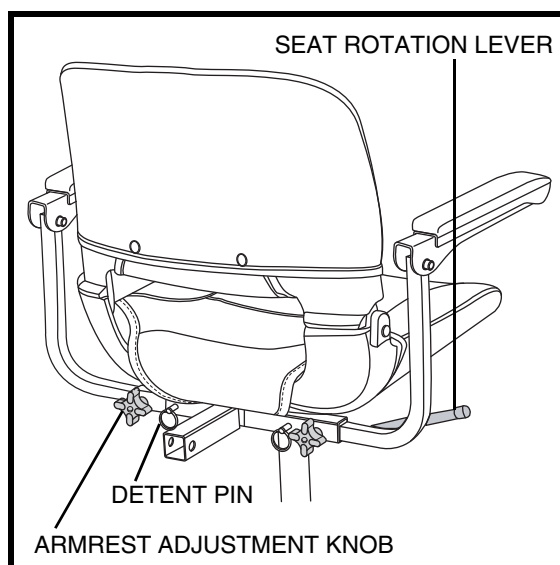

Figure 17. Seat Adjustments
1. Pull up on the seat rotation lever to disengage the seat. **See figure 17.**
1. Loosen the armrest adjustment knobs. **See figure 17.**